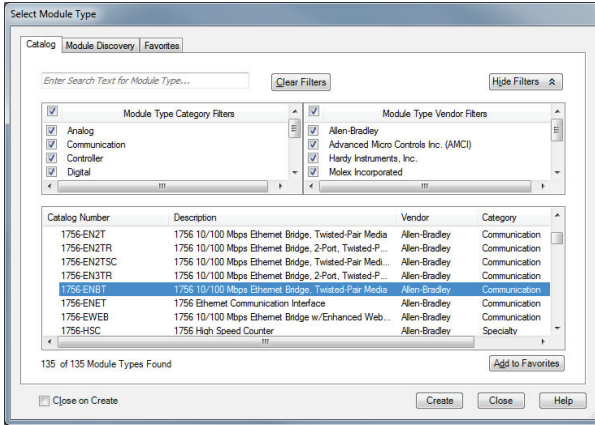

Figure 41: Adding a New Module
- 5) Select the “1756-ENBT/A”, and click “Create”. Refer to Figure 41.